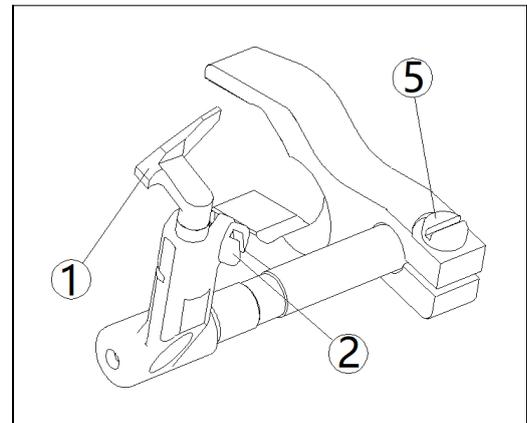

Figure 7-23
Loosen the fixing screw②. From above, ensure the front thimble plate① is parallel to the line connecting to the needle③. Tighten the fixing screw②. (Figures 7-23, 7-24)
(3) Loosen the fixing screw②, adjust the front thimble plate① so that its edge line④ is positioned 2.5–3.0mm above the needle head. (Figures 7-23, 7-25)
(4) Tighten the fixing screw②. (Figure 7-23)
(5) Loosen the fixing screws ②⑤, setting the gap between the right and left needles and the front thimble plate① to 0.2–0.3mm. (Figures 7-23, 7-24)
(6) Tighten the fixing screws②⑤. (Figure 7-23)